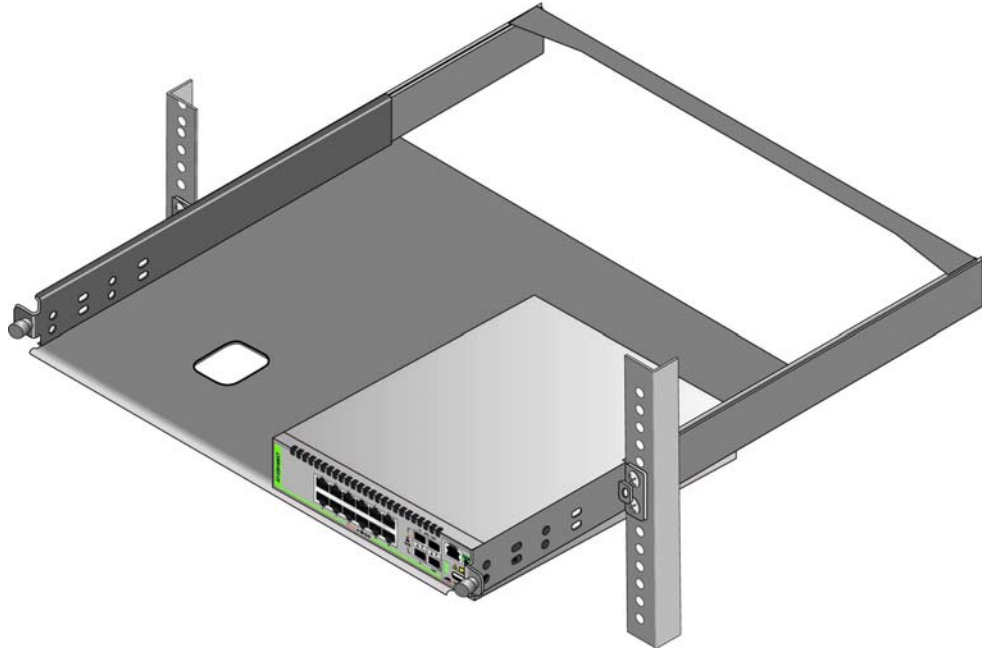

Figure 28. Placing a Switch in the AT-RKMT-J15 Bracket
7. Place the switch in the left or right side of the bracket, with its front panel facing the front of the bracket. If you are installing only one switch, you can install it on either side. Refer to Figure 28 on page 53.